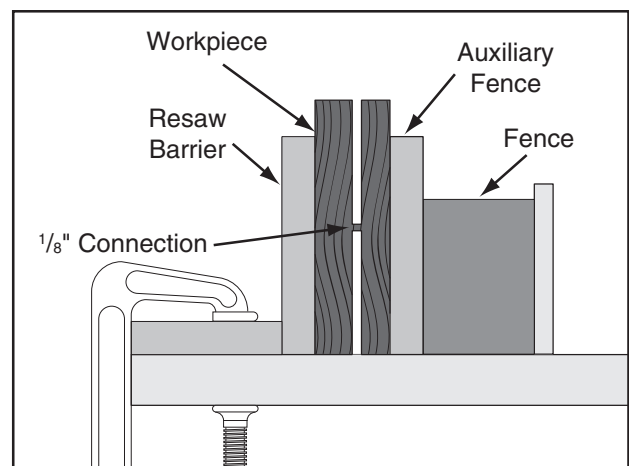

Figure 90. Ideal completed resaw cut.
- Raise the blade approximately an inch, or close to half the height of the workpiece (**Figure 90**), whichever is less.
- Repeat **Steps 7–9** until the blade is close to half of the height of the board to be resawn. The ideal completed resaw cut will leave an $\frac{1}{8}$ " connection when the resawing is complete as shown in **Figure 90**. Leaving an $\frac{1}{8}$ " connection will reduce the risk of kickback.